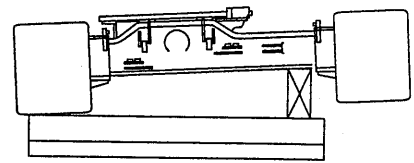

Fig. 11-44
- (5) Retract jacks, and lower the crawlers onto the trailer. Remove the jacks. (Fig. 11-44)